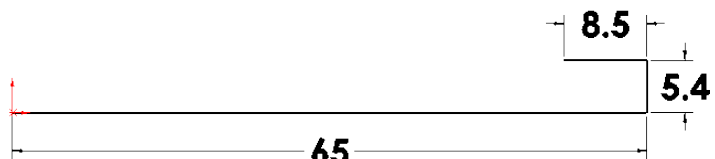

Fig. 3
Step 5. Click **Smart Dimension**  (S) on the Sketch toolbar.
Step 6. Add the dimensions as shown in **Fig. 3**. Arrange the dimensions as **Fig. 3**.
Step 7. Click Zoom to Fit  (F) on the View toolbar.